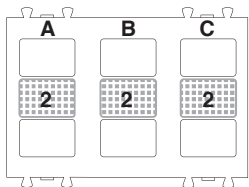

Fig. 2a
The front of the device is divided into nine sensitive areas, three columns of three areas each. For each column, either the central area (2) or the two areas at the top and at the bottom (1 and 3) can be activated (see Fig 2a, 2b, 2c), to obtain a minimum of three active areas to a maximum of six (default condition).